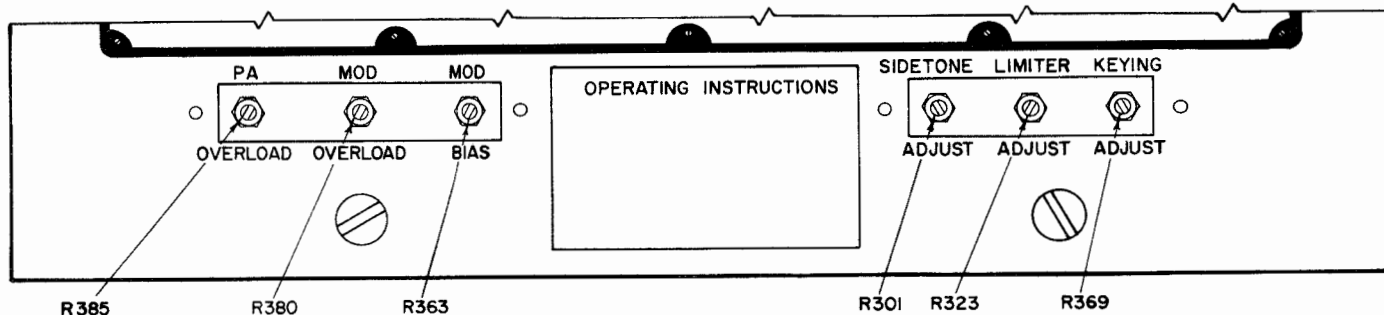

Figure 7-2. Screwdriver Adjustments on Transmitter Front Panel
(2) **BIAS VOLTAGE ADJUSTMENT.** -The bias voltage of minus 150 volts is developed at the output of the LV filter circuit across R411 and R424. Bias voltage adjustment for the modulators, V305 and V306, is provided through R363, a potentiometer located behind the left cover plate on the front panel of Radio Transmitter T-557(XN-1)/SRT-17. Refer to figure 7-2. Before adjusting the modulator bias check that the transmitter is operating on A-1 emission, full power. Depress the TEST KEY to the MOM. ON position and adjust R363 for a reading of 30 ma on the MOD. CATHODE meter.
(3) **OVERLOAD ADJUSTMENTS.** -The power amplifier and modulator overload adjustments are screwdriver adjusted potentiometers located behind the left cover plate on the front panel of Radio Transmitter T-557(XN-1)/SRT-17. Each is clearly marked for identification. Refer to figure 7-2.
In order to hold K402, closed, relay K401 must bridge the "key-up" time at the keying speed used. The discharge time-constant that controls the holding voltage of K402 must be greater than the longest "key-up" time. This time-constant is controlled by potentiometer R369, located behind the right front panel of the Radio Transmitter unit. Refer to figure 7-2. Proceed with the following adjustment for manual keying speeds: